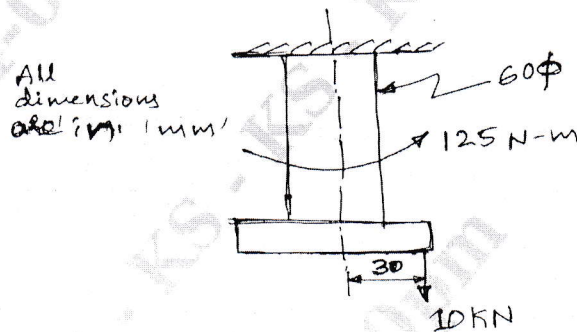

Fig Q1(c)
c. Determine the max tensile and maximum shear stress for the Fig.Q1(c) shown below :